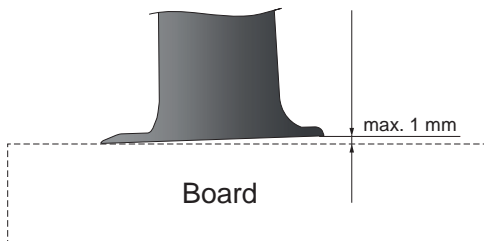

Figure 3.3: Permissible unevenness
- Check that the board and the hydrofoil are lying flat together. See figure 3.3.